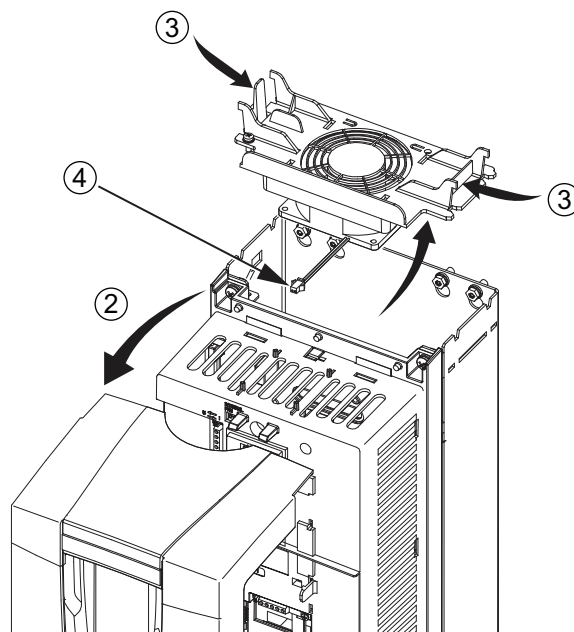

Fig. 51 — ACH550 Fan Replacement
3. Press the lever located on the left side of the fan mount and rotate the fan up and out (see Fig. 51).
4. Disconnect the fan cable (see Fig. 51).